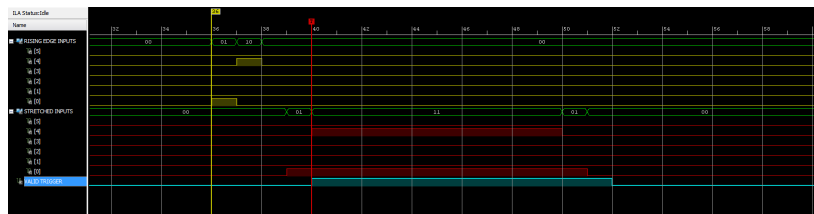

Figure 5.3: Trigger configuration 0x00020002. The valid trigger (blue) is asserted if IN\_1 is high OR when IN\_1 and IN\_5 are both high at the same time.
- Trigger **LSB** word= 0x00020002. This indicates that a valid trigger is achieved in two separated configurations (in logic OR): when both inputs are high at the same time (as in the previous case) or if IN\_1 is active on its own. This is illustrated in figure 5.3. It can be seen that the valid trigger is asserted immediately one clock cycle after IN\_1 is high and remains high as long as this condition is met. One might assume that specifying the combination with IN\_5 is redundant, but the following example should show that this is not the case.